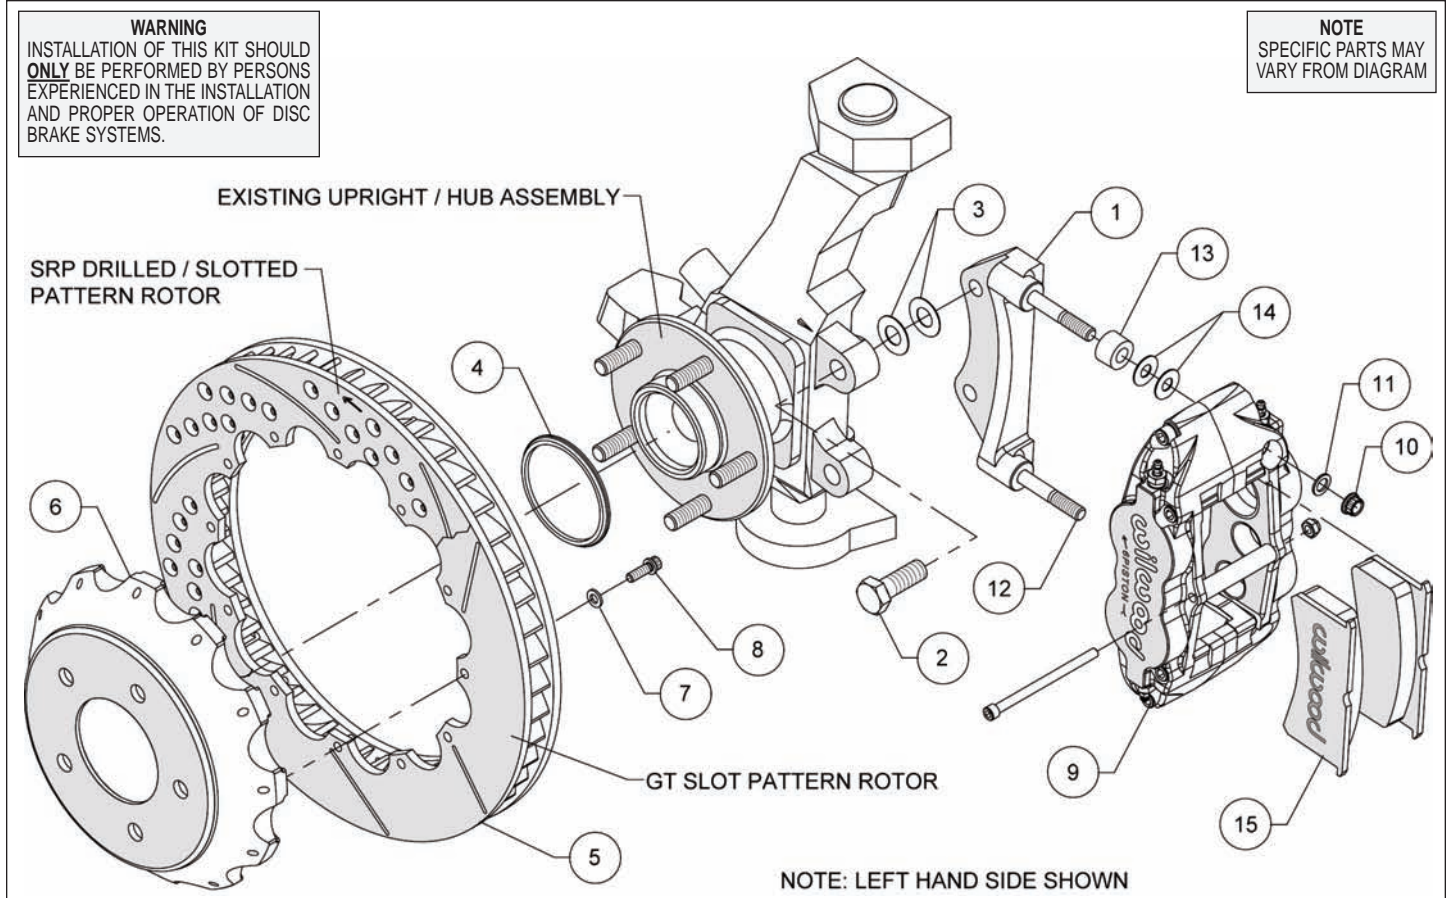
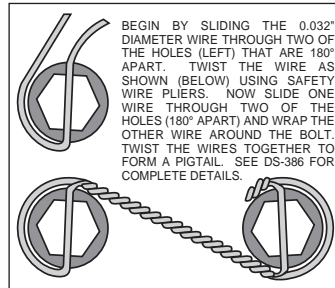

Figure 1. Typical Installation Configuration
Figure 3. Safety Wire Diagram
Assembly Instructions (numbers in parenthesis refer to the parts list and Figure 1 on the preceding pages):
- The caliper mount bracket (1) should initially be installed with clean, dry threads on the mounting bolts. Orient the bracket as shown in Figure 1 and Photo 1, and install using shim washers (3) and bolts (2). Initially place two shims (3) on each bolt between the bracket and upright, Figure 1. Temporarily tighten the mounting bolts. **NOTE:** *The bracket must fit squarely against the mount bosses on the upright.* Inspect for interference from casting irregularities, machining ridges, burrs, etc. Later, after the caliper alignment has been checked, the mount bolts will be secured using red *Loctite*[®] 271.
- Orient the rotor (5) and the hat (6) as shown in Figure 1 and Photo 2. Attach rotor to hat using bolts (8) and washers (7). Using an alternating sequence, apply red *Loctite*[®] 271 to the threads and torque bolts to 155 in-lb. For an added measure of security, the bolts may be safety wired using standard 0.032 inch diameter stainless steel safety wire as shown in Figure 3. Please refer to Wilwood's data sheet DS-386 (available at www.wilwood.com/Pdf/DataSheets/ds386.pdf) for complete safety wire installation instructions.
- Slide the rotor registration adapter (4) onto the axle register on the axle hub with the smaller O.D. facing outward, Photo 3. Slide the hat/rotor assembly onto the axle hub. **NOTE:** *The hat must fit flush against the axle hub flange or excessive rotor run out may result.* Install three lug nuts (finger tight) to keep the hat/rotor assembly in place while continuing with the installation.
- NOTE:** *This kit contains distinct right and left hand calipers that must be mounted in a specific direction, as described below.* Lubricate the caliper mounting studs (12) with lightweight oil. Initially place two .035" thick shims (14) and spacer (13) on each stud as shown in Figure 1 and Photo 4. Mount the caliper (9) onto the bracket (1) using lock nuts (10) and washers (11), Figure 1. Ensure that the caliper is mounted so that the largest pistons are at the rotor exit end of the caliper, in relation to the direction of rotor rotation. Temporarily tighten the lock nuts and view the rotor through the top opening of the caliper. The rotor should be centered in the caliper, Photo 5. If not, adjust by adding or subtracting shims (3) between the bracket and the upright. Always use the same amount of shims on each of the two mounting bolts. Once the caliper alignment is correct, remove the bracket mounting bolts one at a time, apply red *Loctite*[®] 271 to the threads, and torque to 75 ft-lb.